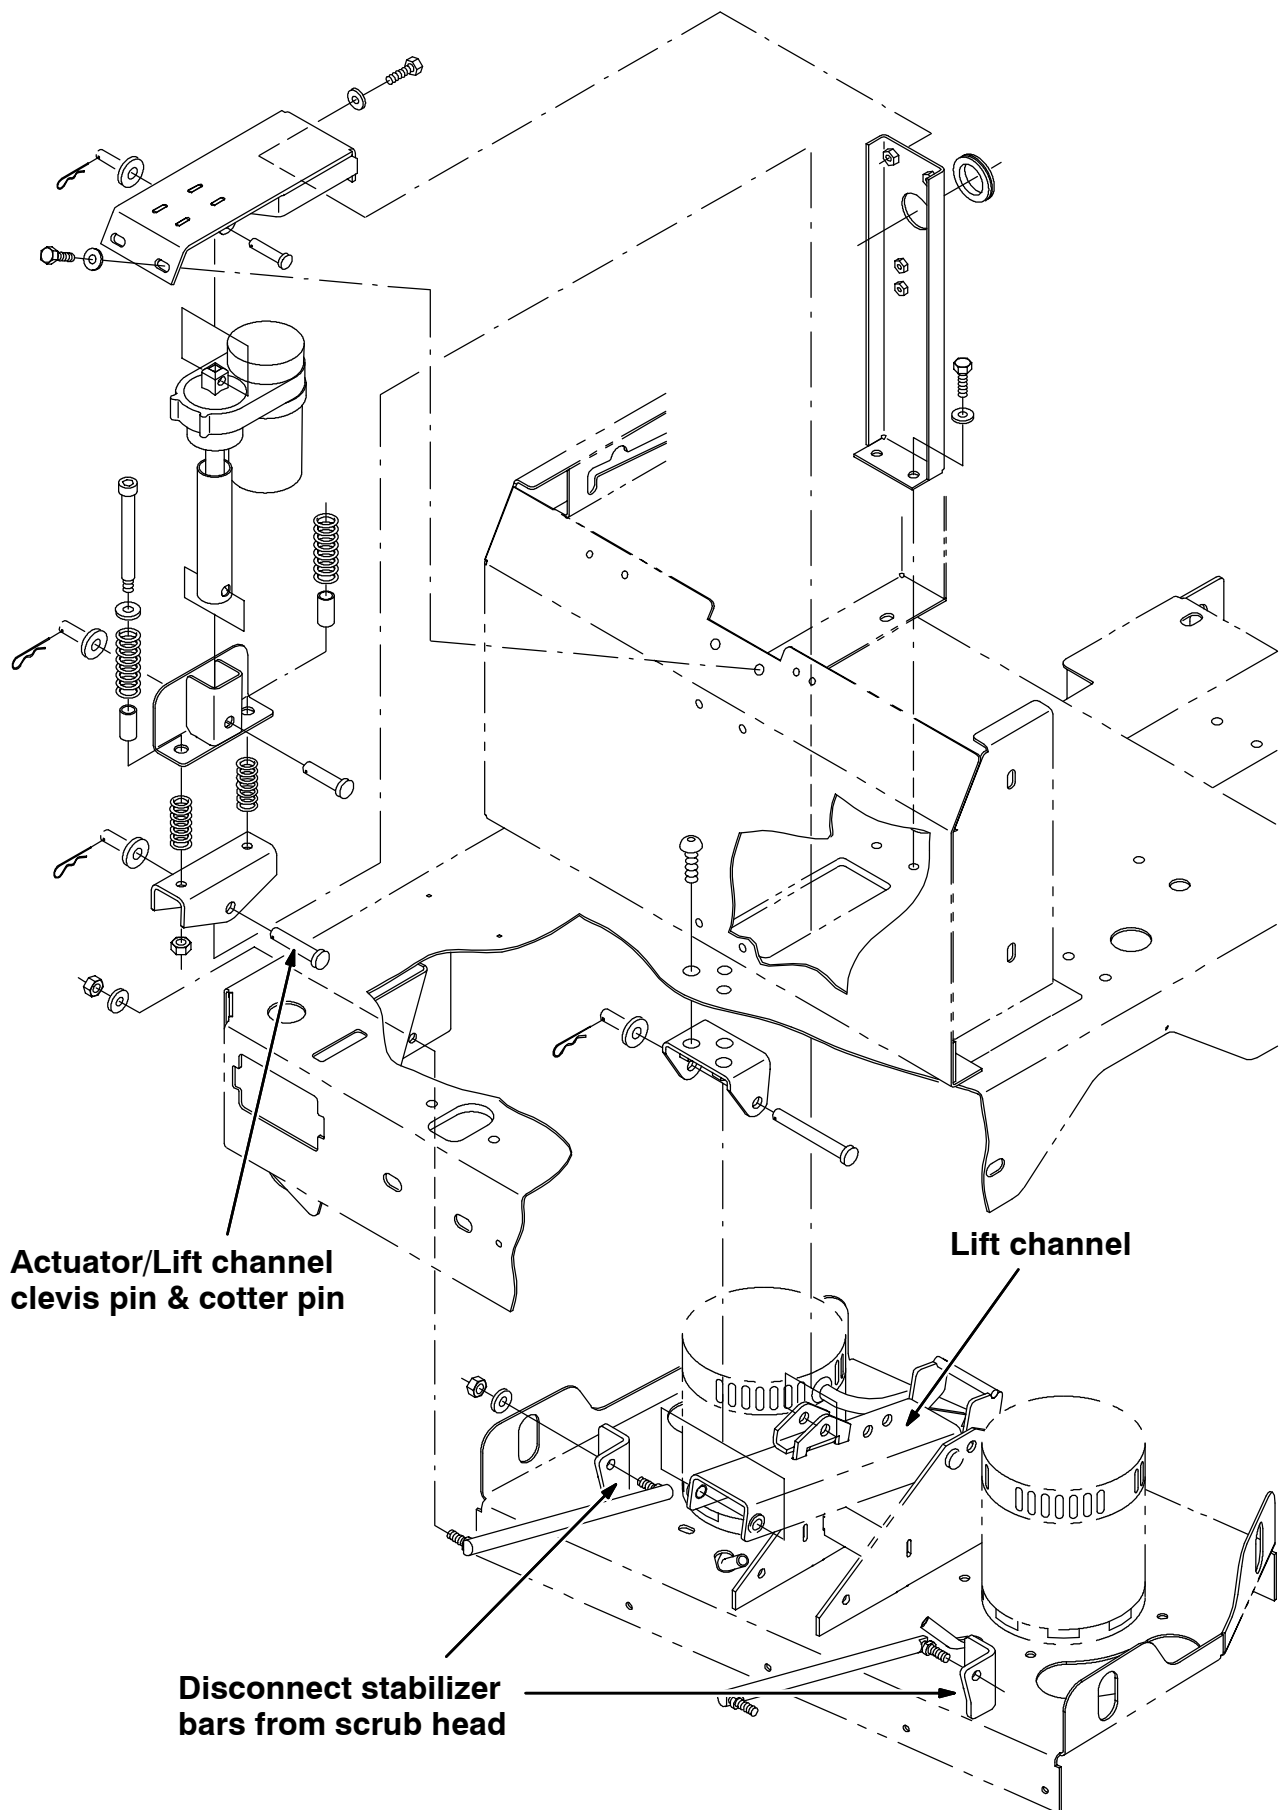

FIG. 1 - Scrub Head Lift Group, Standard
(Refer to FIG. 1 thru 5)
3. Disconnect the scrub head actuator lift tool from the scrub head. Retain the clevis pin and cotter pin for reassembly. (Refer to FIG. 1 and 2)
1. Disconnect and tie up the stabilizer bars from each side of the scrub head. (Refer to FIG. 1)
2. Locate the lift channel underneath the machine, connecting the scrub head to the machine frame. (Refer to FIG. 1,2 and 5)
2. Position the actuator lift tool over the tool lift channel with the longer side on the left hand side of the machine. Mount the scrub head lift channel to the machine frame with the longer set aside clevis pins washers and cotter pin. Release the link arms, and reconnect to each side of the scrub head. (Refer to FIG 1,2 and 5)
3. Turn the machine power on, and slowly lower the scrub head lift actuator. Connect the scrub head actuator lift tool to the scrub head lift channel with the set aside clevis pin and cotter pin. (Refer to FIG 1,2 and 5)